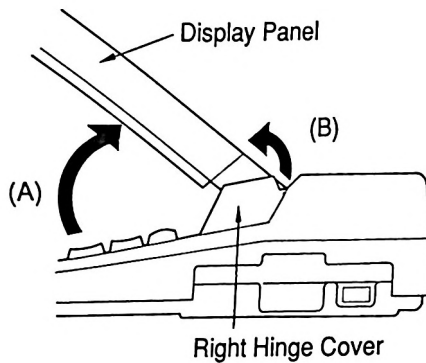

Figure 1
- (1) Open the display panel and adjust its angle in the direction of arrow (A) as shown in Figure 1. Then, gently lift up the rear end of the right hinge cover in the direction of arrow (B).